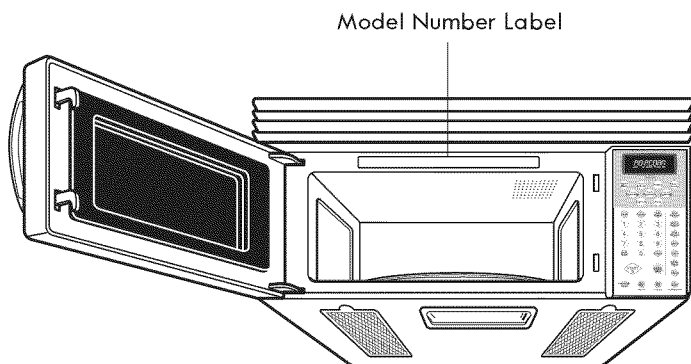

Figure 1
- The model number label is located on the oven front. See Figure 1.